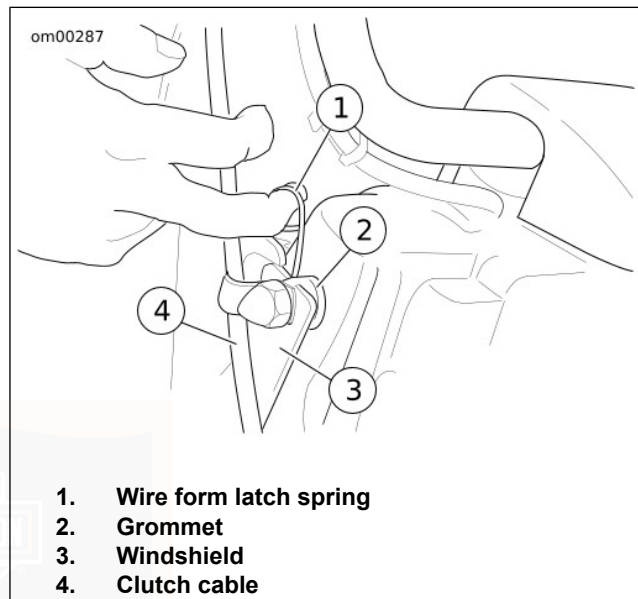

Figure 20. Windshield: FLHR/C
1. See Figure 20. Lift the wire form latch springs at either side of the windshield and move the TOP of the windshield assembly forward, until the TOP bracket notches slide away from the grommets.
1. See Figure 20. Lift the wire form latch springs at either side of the windshield and slide the BOTTOM windshield bracket notches onto the bottom grommets.